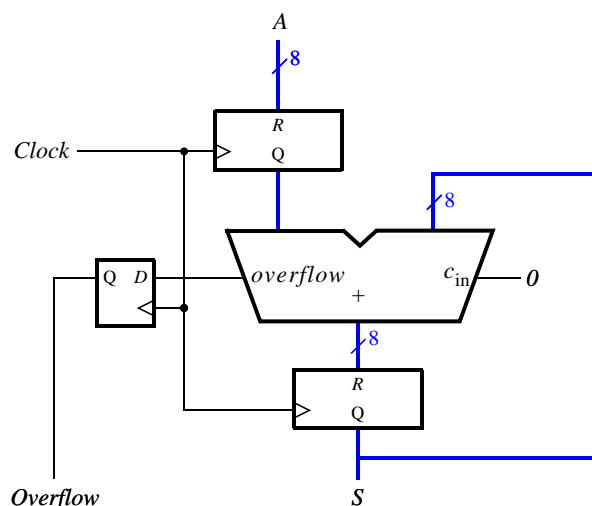

Figure 2: An eight-bit accumulator circuit.
Use this construct to implement a circuit shown in Figure 2.
2. Write Verilog code that describes the circuit in Figure 2.